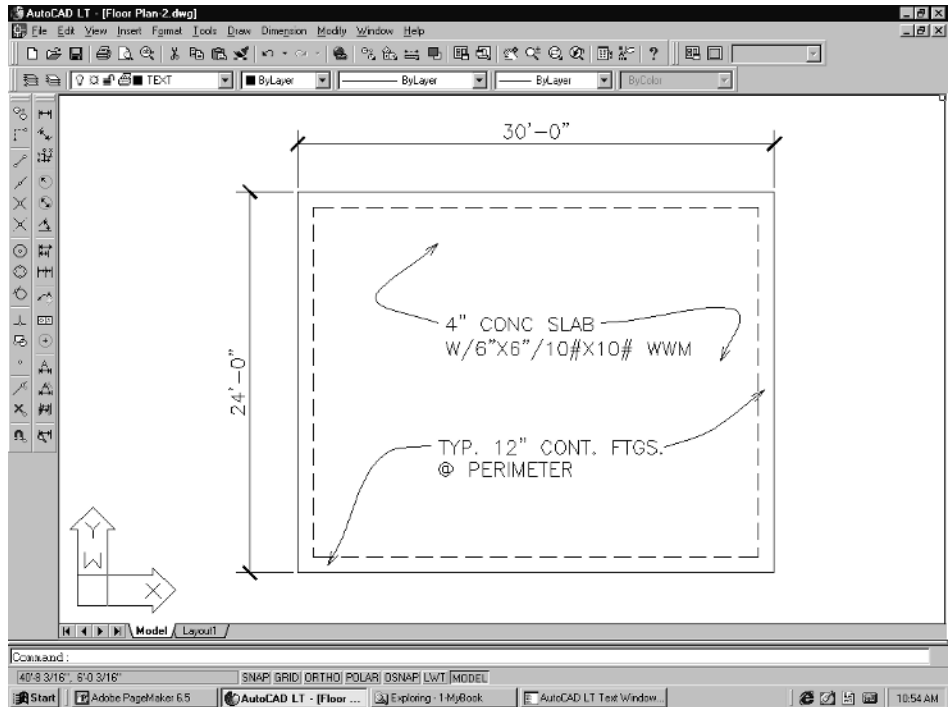

Figure 3-15
16. Finish adding the rest of the leaders to the foundation plan using the same method. Your drawing should resemble Figure 3-15.